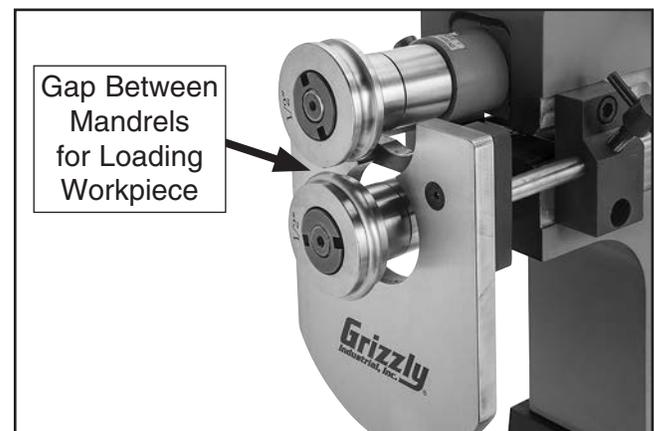

Figure 21. Upper mandrel raised in preparation for loading workpiece.
3. Raise upper mandrel enough to fit workpiece between mandrels (see **Figure 21**).